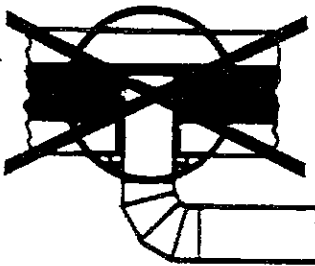

FIG. 8
4. The pipe cannot extend into the chimney flue (Fig. 8).
1. The connector pipe may be pushed into the chimney too far, stopping the draft (Fig 8).